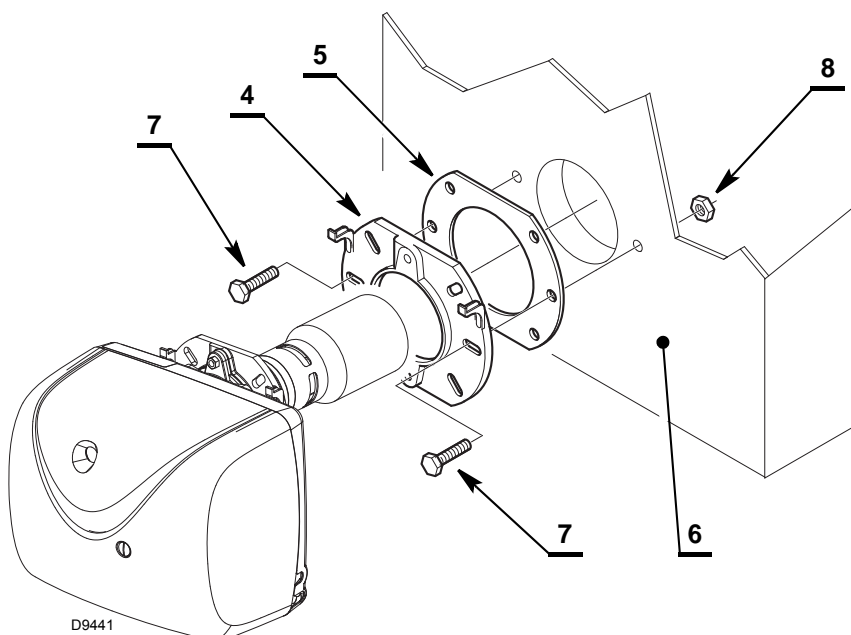

Fig. 7
- Fix the flange 4) to the boiler door 6) using screws 7) and (if necessary) the nuts 8) interposing the insulating gasket 5) (Fig. 7).